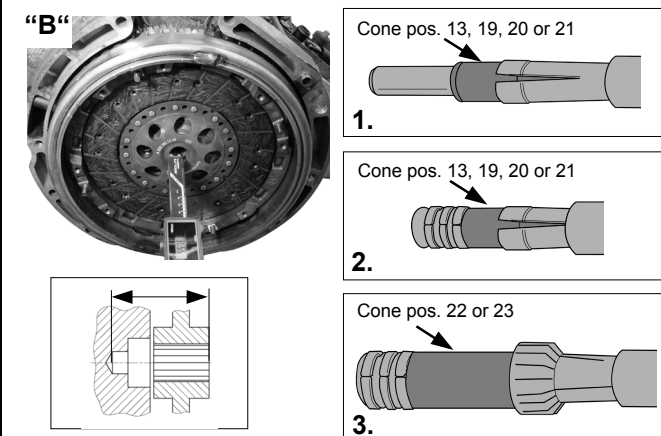

Fig. 8 : Assembled clutch aligner.
10. Insert the assembled clutch aligner (**fig. 8**) with the clutch disc into the flywheel and tighten the clutch aligner. (**fig. 9 A and B**)